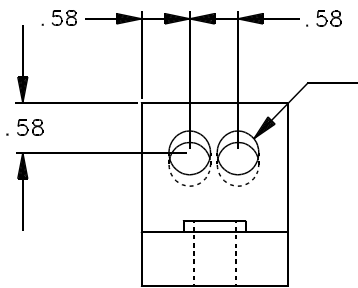

Figure 43
- Figure 43 shows the location of the leader.